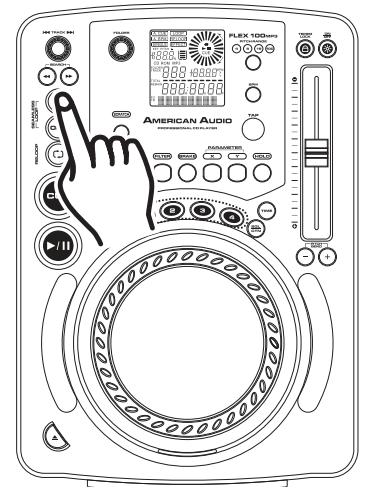

Figure 14
A cue point is the exact point playback will begin when the *PLAY/PAUSE BUTTON* (18) is pressed. You may set your cue points anywhere on a disc or in a track. You may set up to four independent cue points per disc. Four cue points are stored in the *BANK BUTTONS 1-4* (13). There are two (2) ways to set and create a CUE point as detailed in figures 14 and 15.
- 1) You may press the *IN BUTTON* (24) on the fly (while the disc is playing). This will set a CUE Point without music interruption. Pressing the *CUE BUTTON* (20) will now return you to the same point that you pressed the *IN BUTTON* (24). You may now store this CUE Point in any of the *BANK BUTTONS 1-4* (13). Pressing the *CUE BUTTON* (20) or the *IN BUTTON* (24) will now return you to this exact point.